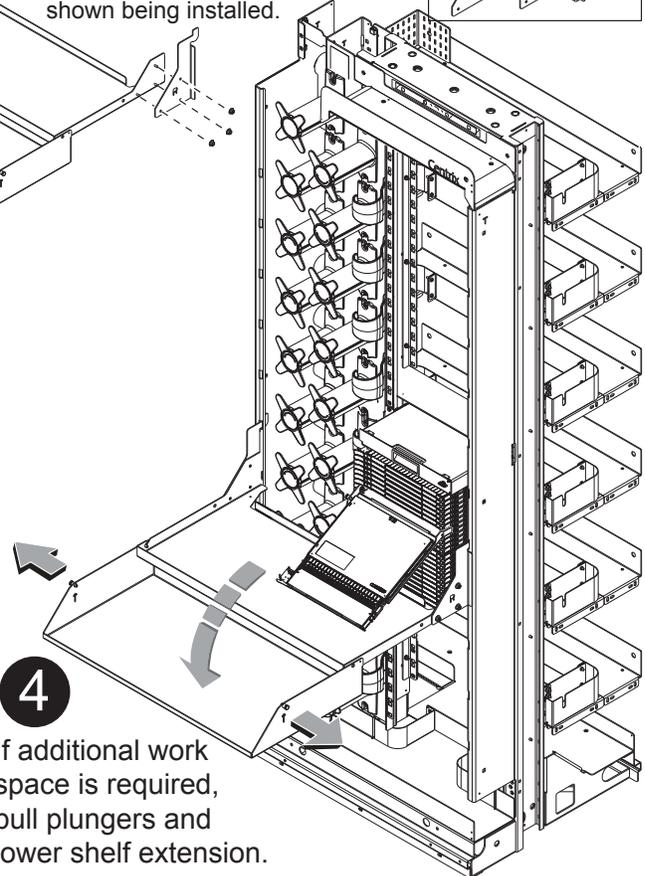

Figure 17
**NOTE:** To facilitate splicing and testing, Corning offers a work shelf (CTX-WORKSHELF) shown in Figure 17.
**Step 24:** Turn cassette over and move it to a work surface or the work shelf shown in Figure 17.
**Step 29:** If the work shelf was used, remove it by reversing Steps 3 and 4 in Figure 17. Store the work shelf.